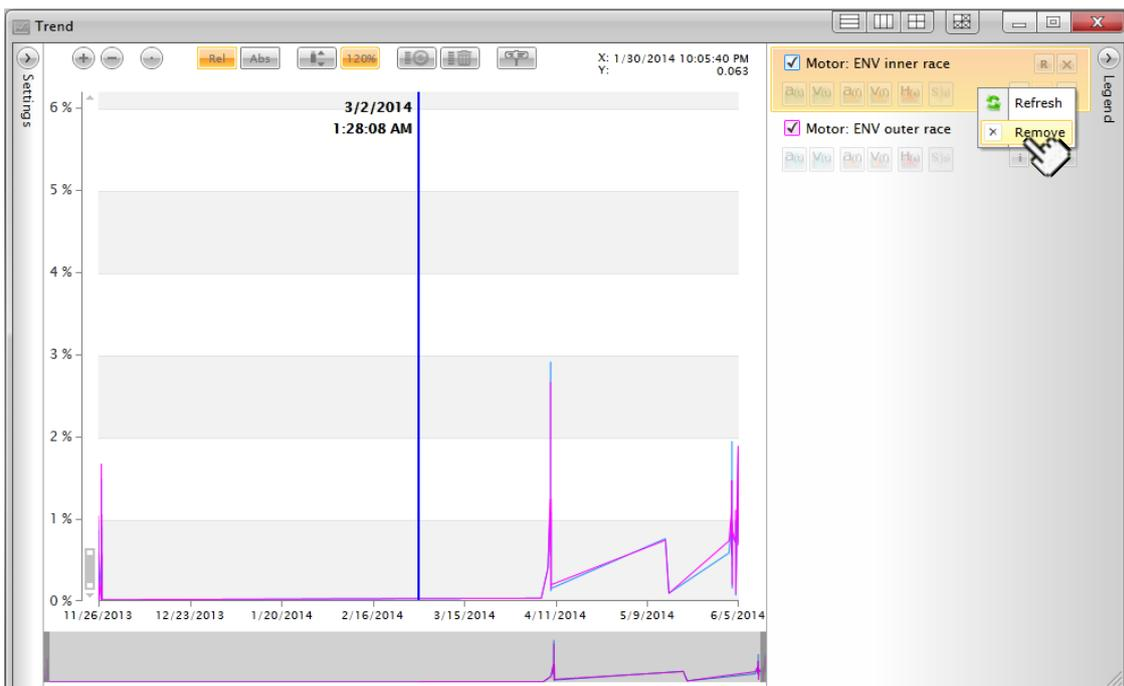

Figure 18: Remove trend via context menu
- Select the “Refresh” command in the context menu of a specific trend (see Figure 18: Remove trend via context menu)